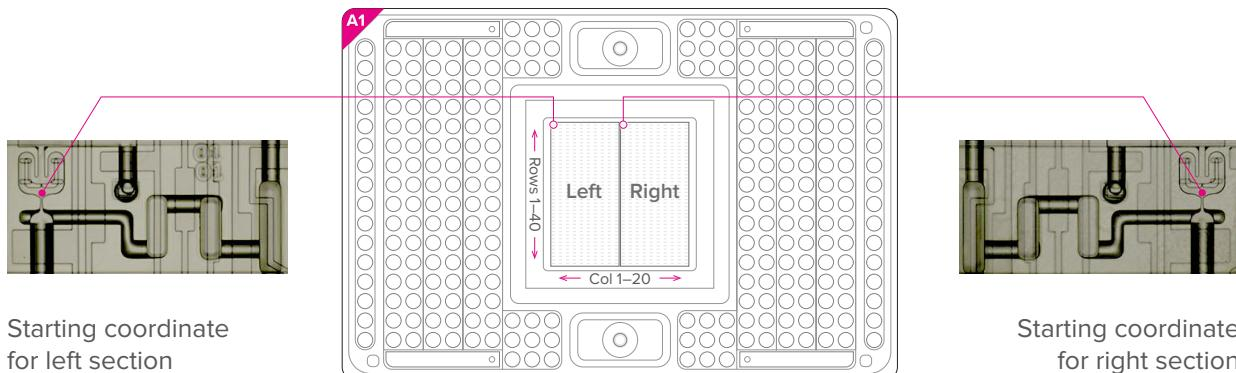

Figure 8. Starting coordinates for each section of the HT IFC.
- 1 We highly recommend that you image all of the cell capture sites in the center panel of the HT IFC (see Figure 8) using a microscope compatible with IFCs, and then perform quality control (scoring) on the cells using an established protocol for your cell type(s).